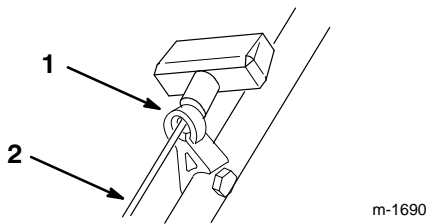

Figure 3
9. Pull the starter rope through the rope guide on the handle (Fig. 3).